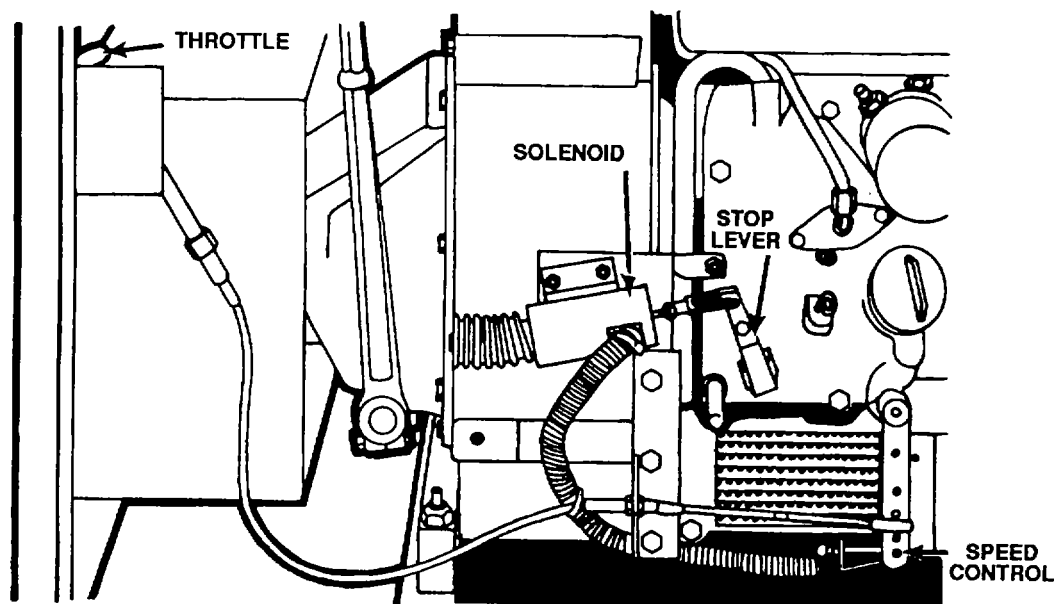

Figure 4-13. Stop Lever/Solenoid Speed Control/Throttle
c. Speed Control/Throttle (figure 4-13).